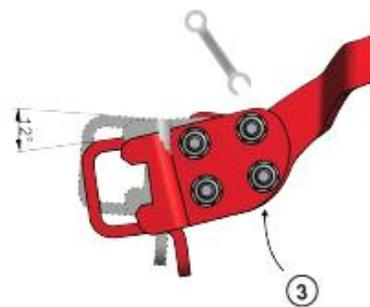

Figure 4. Adjust the position of the spring
3. Adjust the angle of the Finger Weeders up and down. See figure 4.